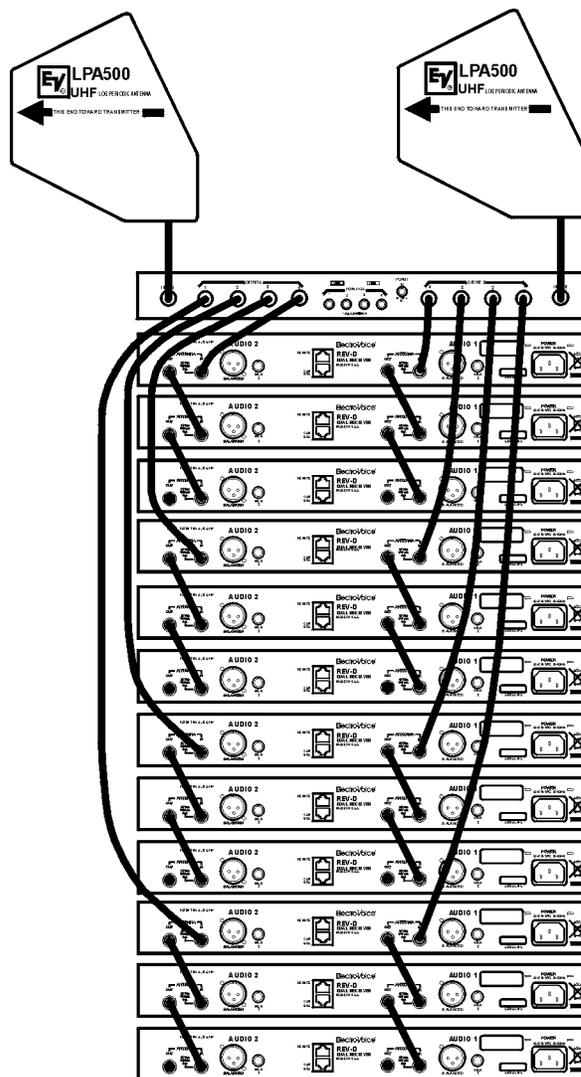

Figure 4
4. UP to 12 REV-DUAL units can be operated with just two antennas with the optional APD4+ antenna distribution unit (see Figure 4).